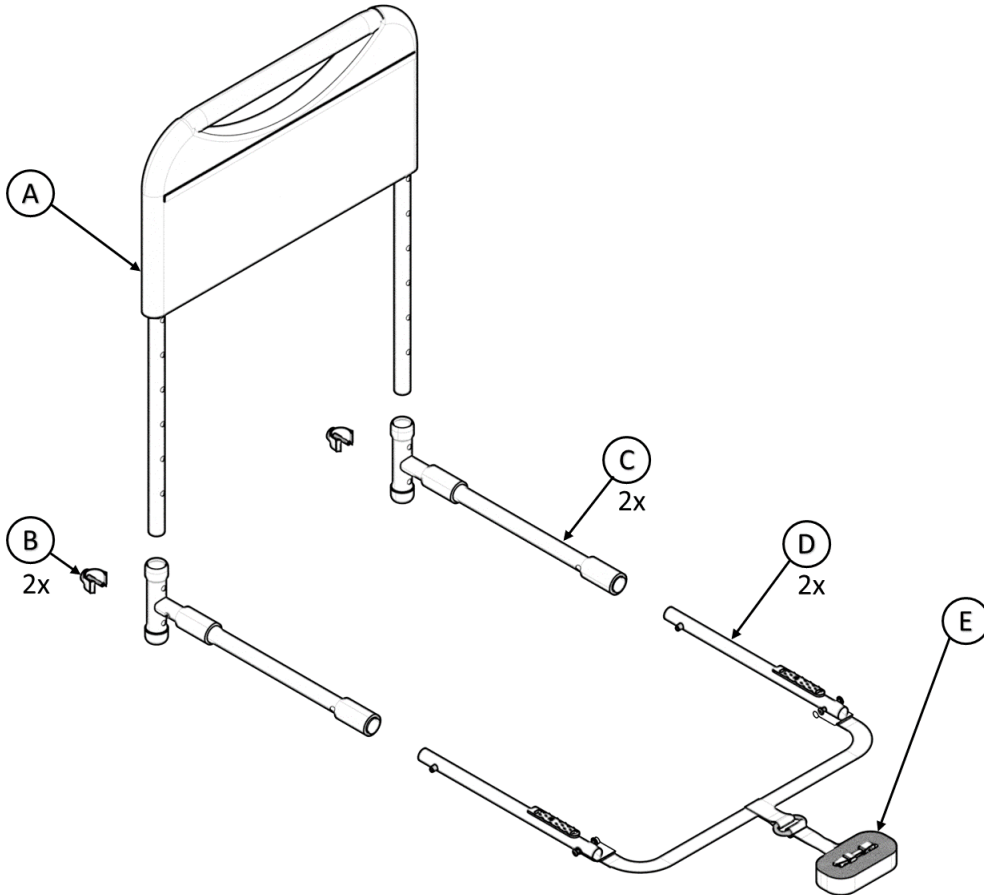

FIGURE 1
1. Remove product from box and identify all parts as shown in Figure 1.